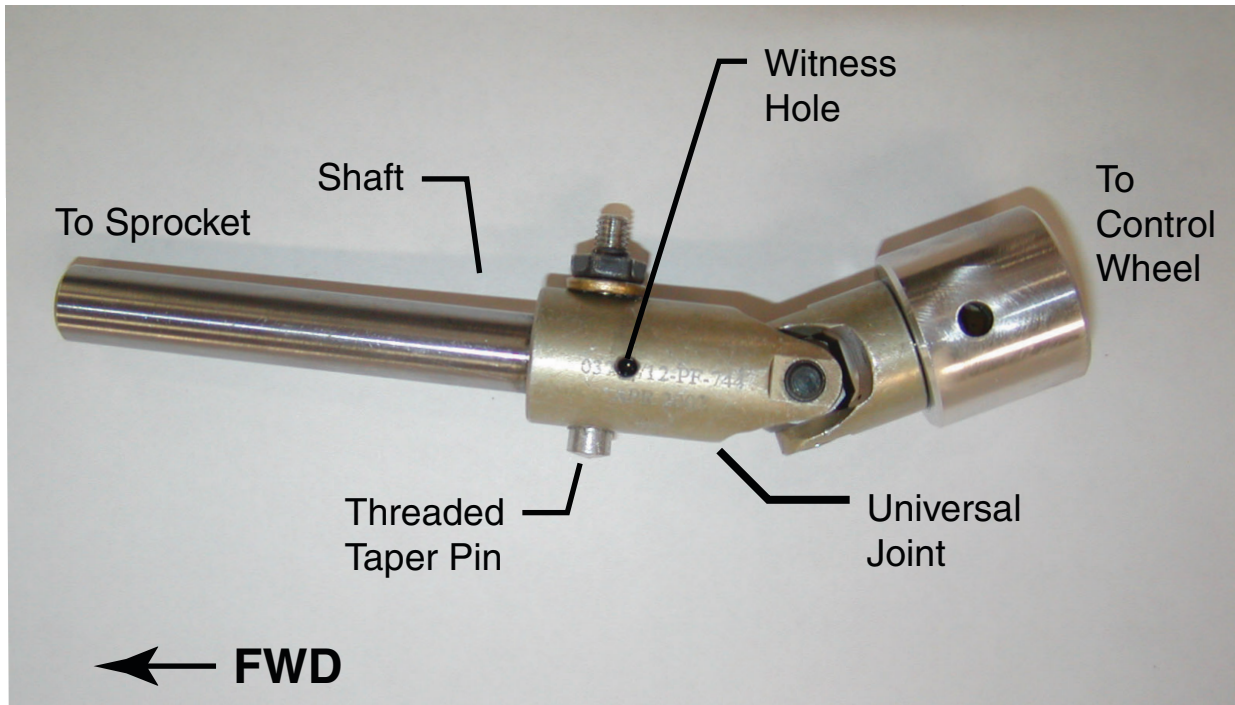

Figure 2
3. Inspect each universal joint for the presence of a witness hole, as shown in figure 2. Most aircraft will have this witness hole feature. However, some early model aircraft may not have a witness hole. If no witness hole exists, proceed to step 5.